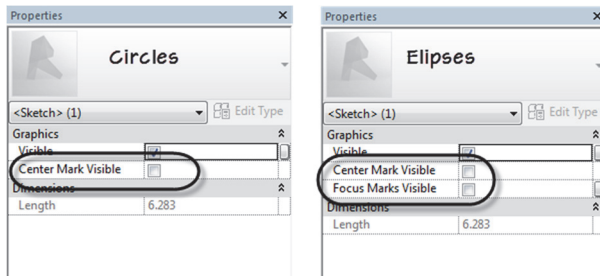

FIGURE 4.7
For curved objects like circles and ellipses you can display the center mark. This can be helpful to ensure that the element flexes in the way you expect and intend. Any curved object has this setting including arcs. For ellipses, you can also display the foci. To display either, look for the checkbox on the Properties palette (see Figure 4.7).
- ⇒ Select the circle onscreen. On the Properties palette, check Center Mark Visible (shown above in Figure 4.7).
17. Select the ellipse onscreen. On the Properties palette, check Center Mark Visible (shown above in Figure 4.7).